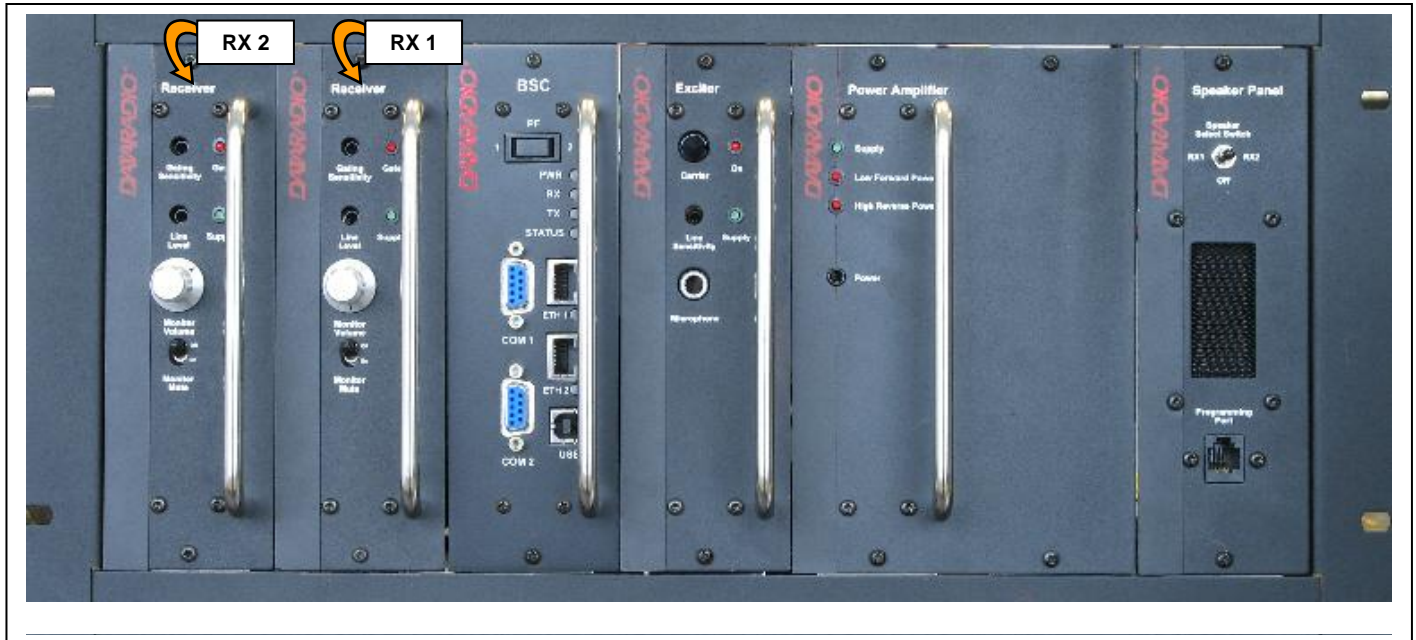
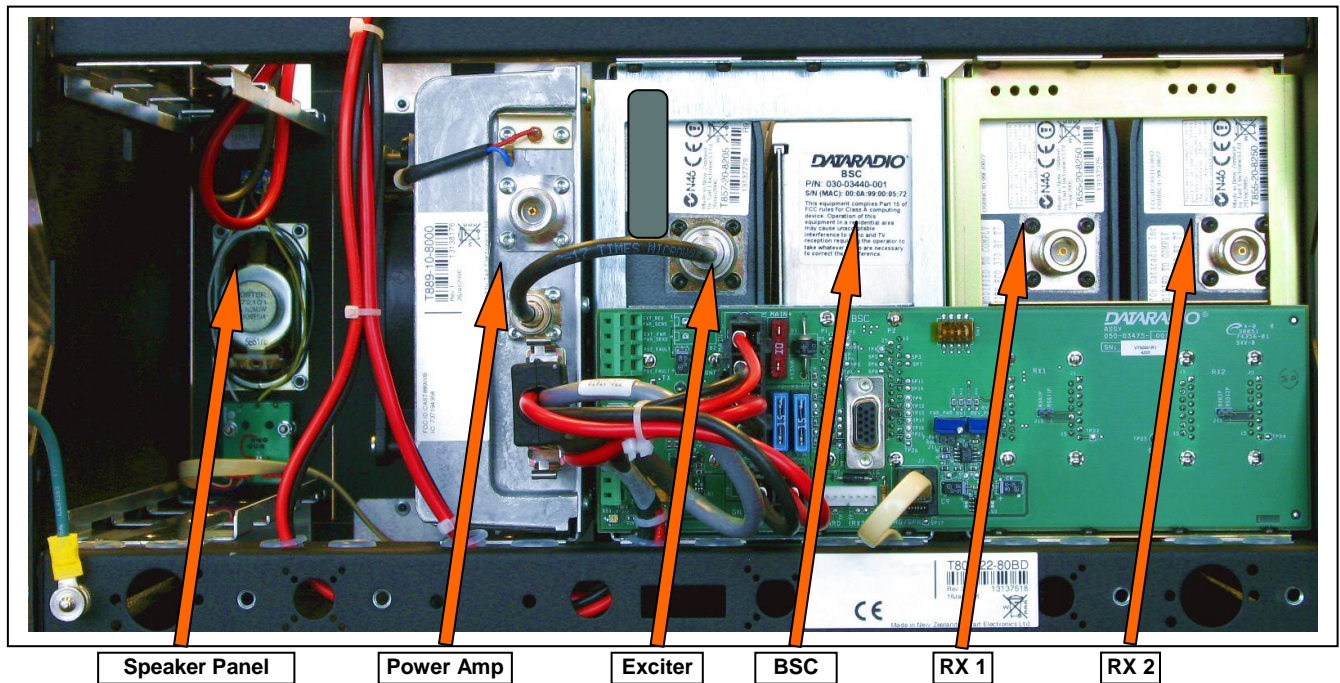

Figure 1 - Front view "Radio Assembly"
Figure 2 - Paragon3 unit rear view
Paragon3 radiomodem UHF and 800 MHz receiver modules (*RX1 and RX2 positions clearly identified in Figure 1 above and in Figure 2 on the next page*) are factory-adjusted as a pair and identified. Once tuned, they are not mutually interchangeable.
- 2- Referring to Figure 2 for locating modules, terminate the RX-1 and RX-2 cable-ends at their respective module rear position with N-type connectors.
For locating modules, refer to Figure 2 above.